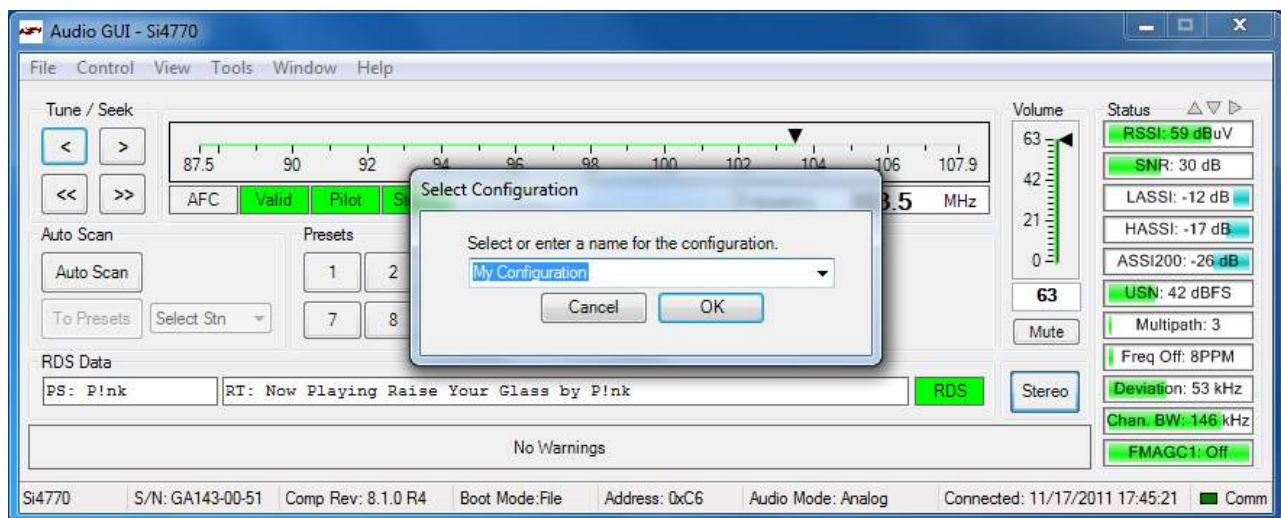

Figure 11. Naming a Configuration State During Save
2. Click on Save Current State and the Select Configuration window shown in Figure 11 will pop up. Enter the name of the configuration state and click OK. The current state called My Configuration which contains the property values is now saved.